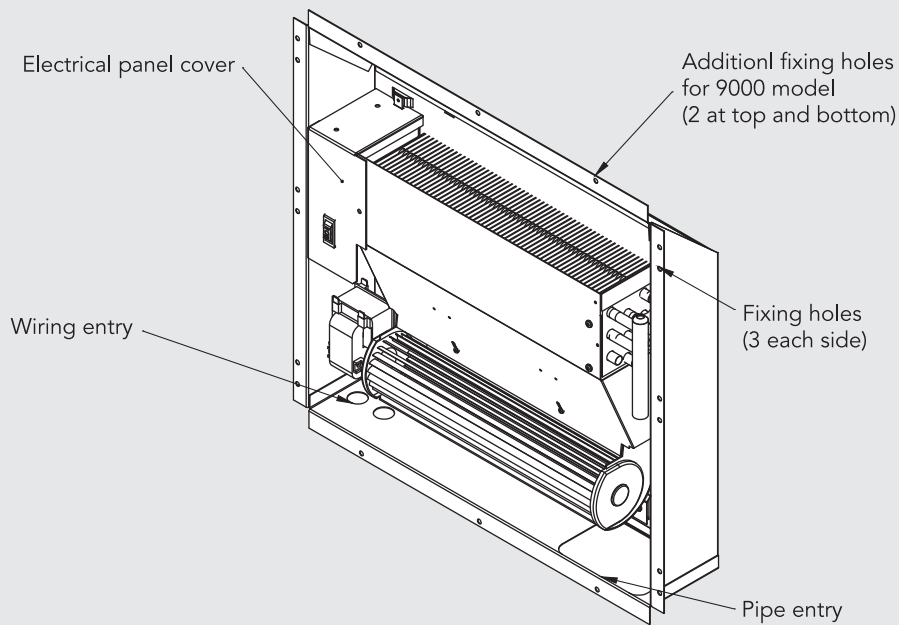

Fig.2
- The WHISPA III® wall units are designed so that the piping and wiring connections are made within the cabinet of the unit itself. The installer should inspect the unit and note that the $\frac{1}{2}$ " piping should enter on the lower right hand corner of the unit and the 110V AC wiring for the unit enters on the lower left hand corner of the unit, see Fig 2.
- Depending on the wall construction, the installer will need to decide whether it would be best to fit the unit first and then bring in the piping, or to bring the piping in first. Once this decision has been made, place the unit in position (fan at bottom) and secure to the framing with suitable screws. Use all the fixing holes, see Fig 2.
- Bleed the coil of air using the vent screw provided, see Fig 2. Close the vent and check for leaks. With the leak check complete, the electrical circuit to the unit may be energized.